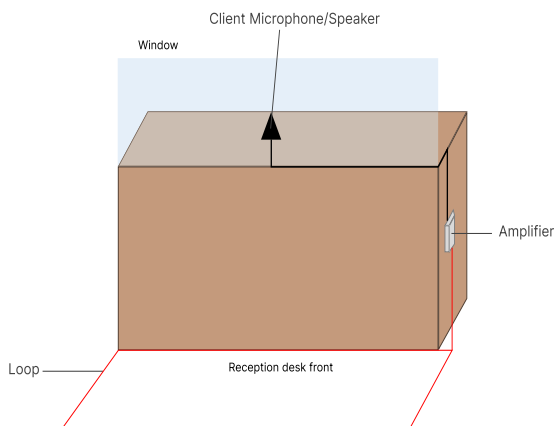

Figure 5
- According to your environment situation, place the loop in the slab (over the wire mesh) or under a coating (parquet, carpet, etc.) using a copper tape or glued under a carpet as shown on figure 5.